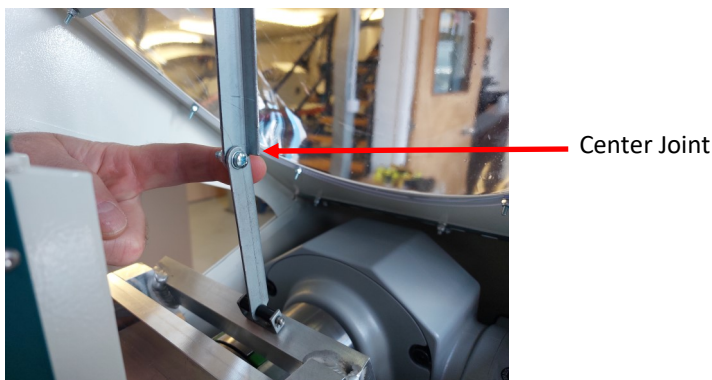

Figure 22
2. Lift the plastic dome cover and lock it in the up position by pulling the centre joint of the prop towards you, as shown in figure 22.